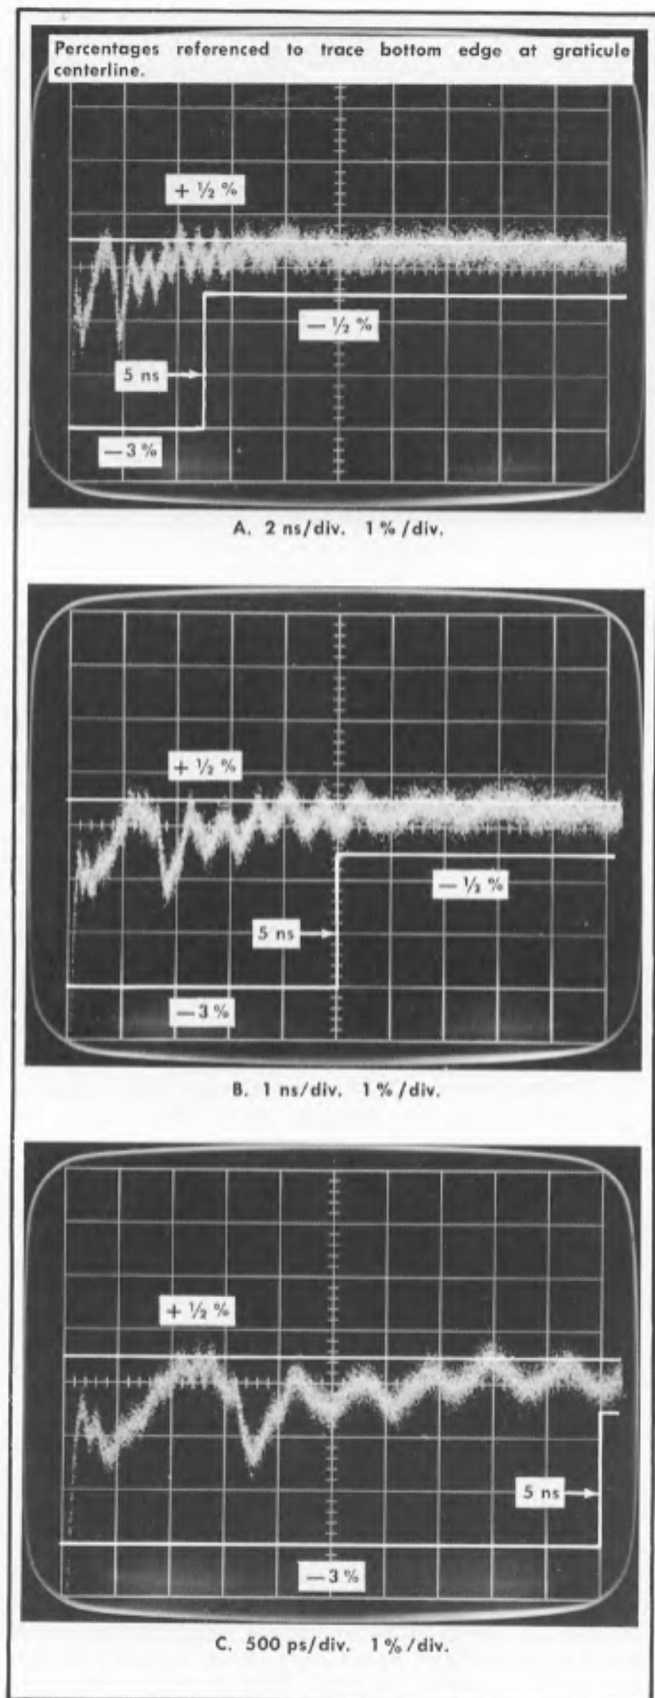
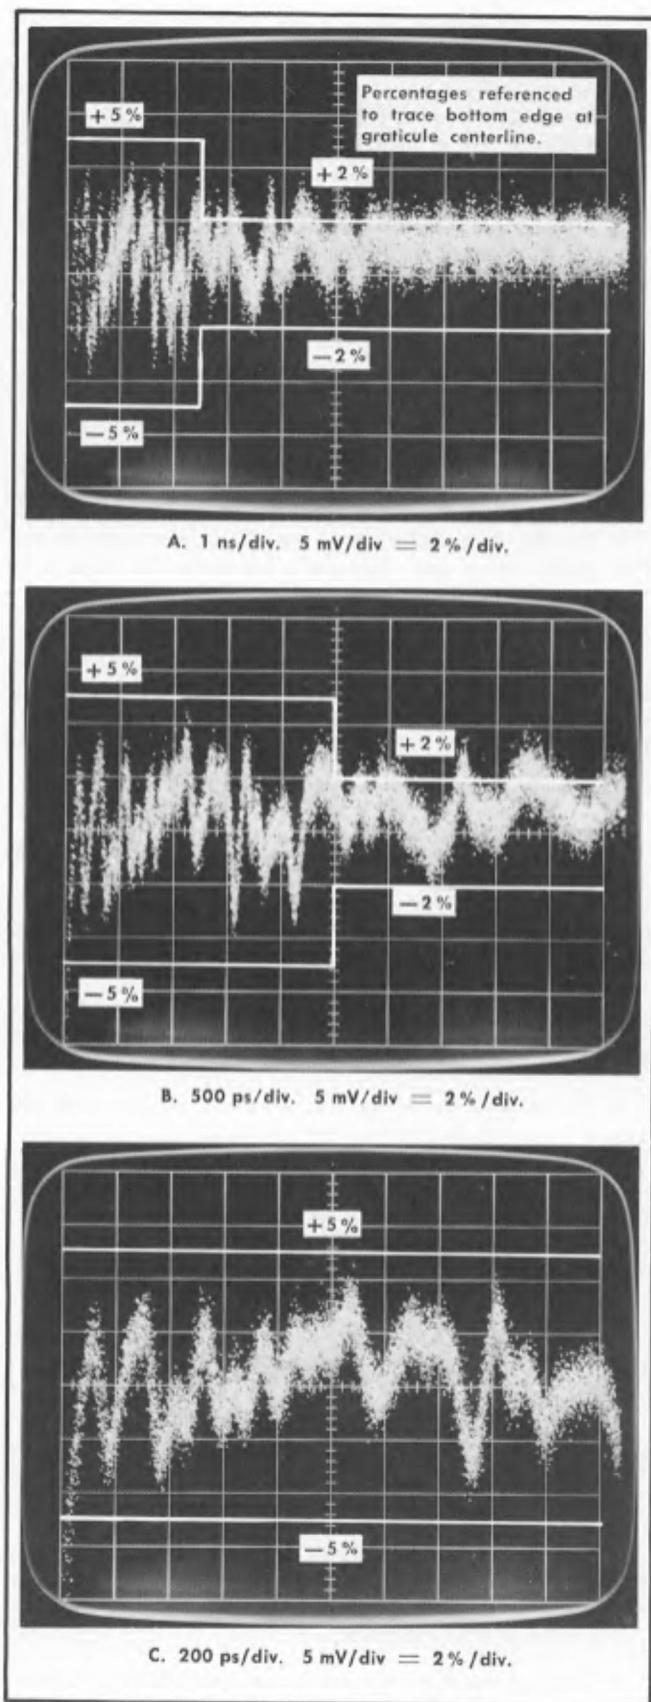

Fig. 5-12. Check of Type S-1 pulse flatness deviation. Step 8.
Fig. 5-13. Check of Type S-2 pulse flatness deviation. Step 8.
b. Time-position the display so the pulse rise is about a trace width inside the graticule edge. Check along the trace bottom for deviations as listed in the requirements, and as shown in Fig. 5-12 and Fig. 5-13.
Change the sweep rate as listed under the three parts of Fig. 5-12 and Fig. 5-13, and check for deviations as shown.